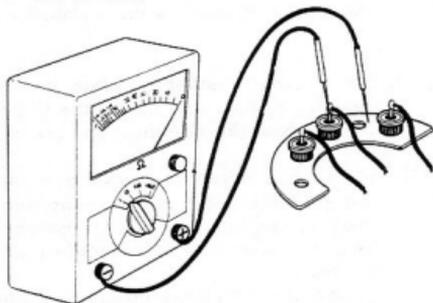

Fig.8-37 Rectifier Test G0172
1. Rectifier holder positive side. Connect the tester (+) lead on the rectifier holder, and (-) lead on the rectifier lead as shown in figure 8-37 and check the resistance. Good rectifier will indicate no resistance, and if it indicates a high resistance, the rectifier is opened. Then turn the polarity of the tester and check again. If the needle of the tester moves in either